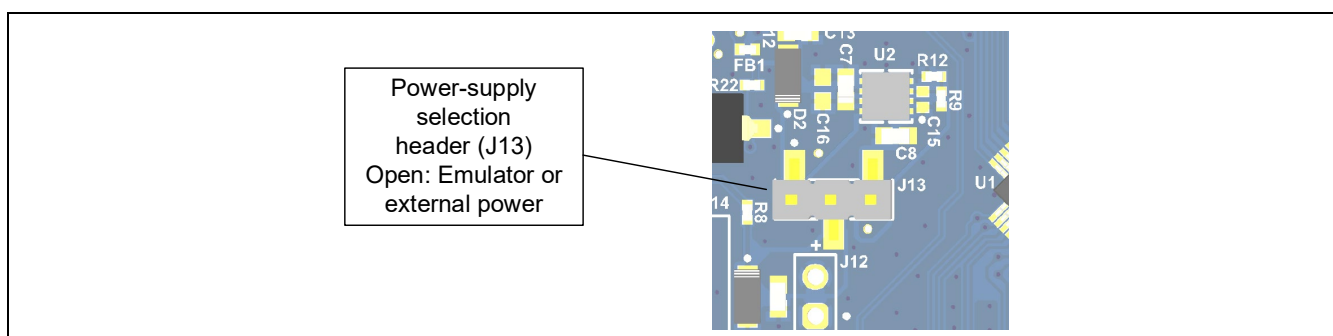

Figure 5-4 Setting of the Header to Select Supply from the Emulator or External Power
- J13 being open-circuit selects supply from the emulator or external power (Figure 5-4).